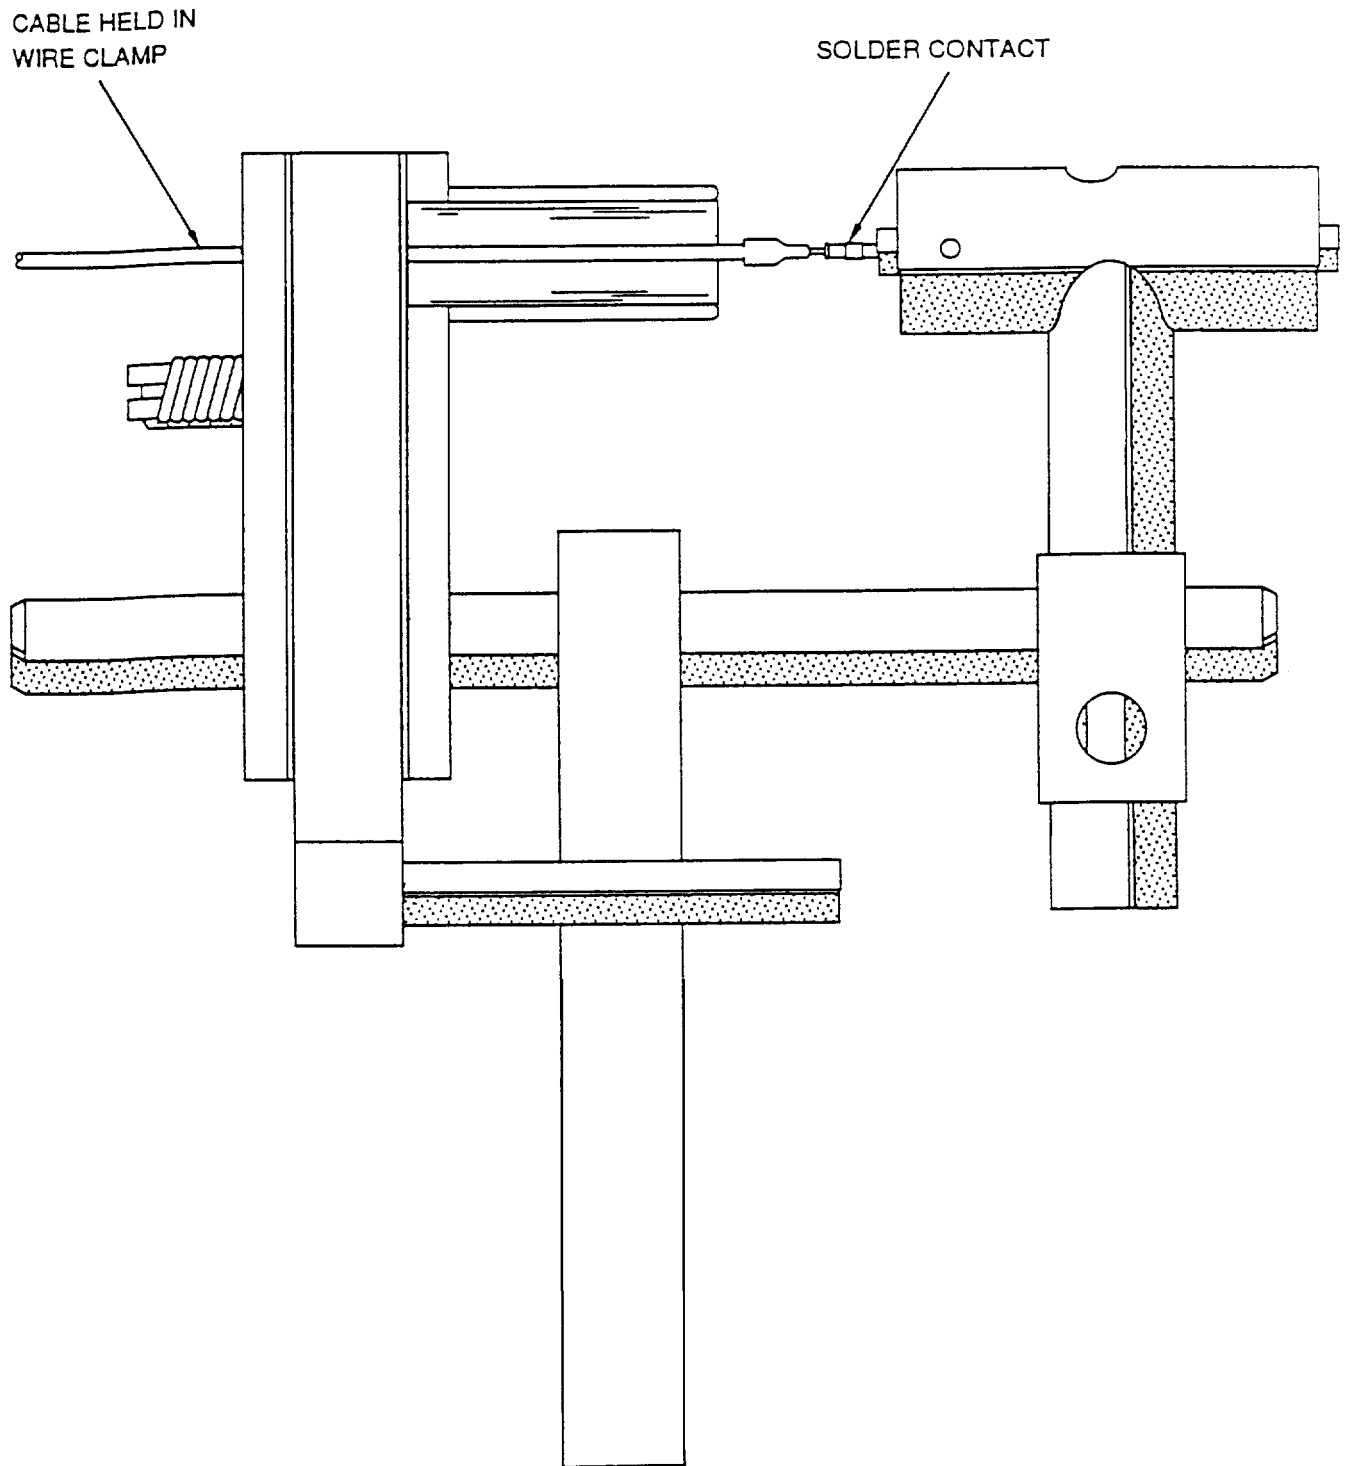

Figure 47. Solder Contact and Cable Prepared for Heating
- c. Insert contact and cable assembly into holding fixture and adapter (Figure 47). End of adapter marked P is for plug (pin) contacts and end marked R is for receptacle (socket) contacts.
- c. Insert contact and twisted pair assembly into holding fixture and adapter (Figure 47). End of adapter marked P is for plug (pin) contacts and end marked R is for receptacle (socket) contacts.